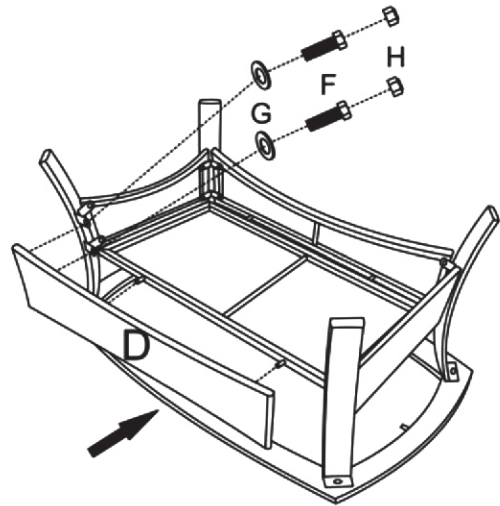

Figure 6
Step 7. Then insert the leg connecting plate to the other long leg connector(D) and at the same time assemble the long leg connector to the table legs with bolts(F) and washers(G) as shown in figure 6